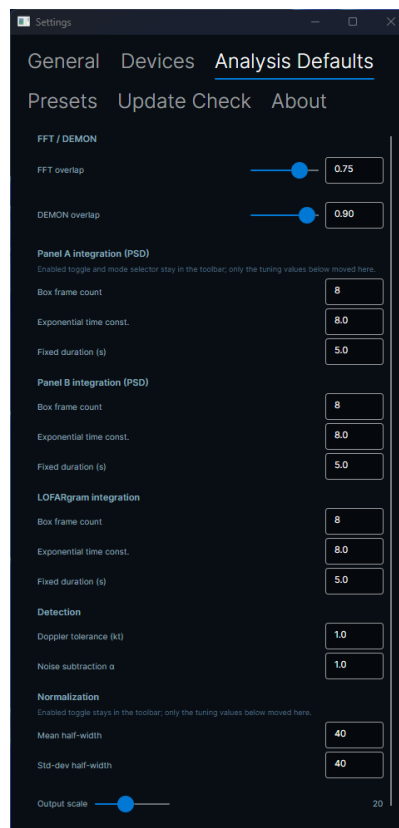

Figure 6: Analysis Defaults panel
- **Analysis Defaults** Sets FFT / DEMON overlap, panels A/B overlap and integration features (see Figure 6).